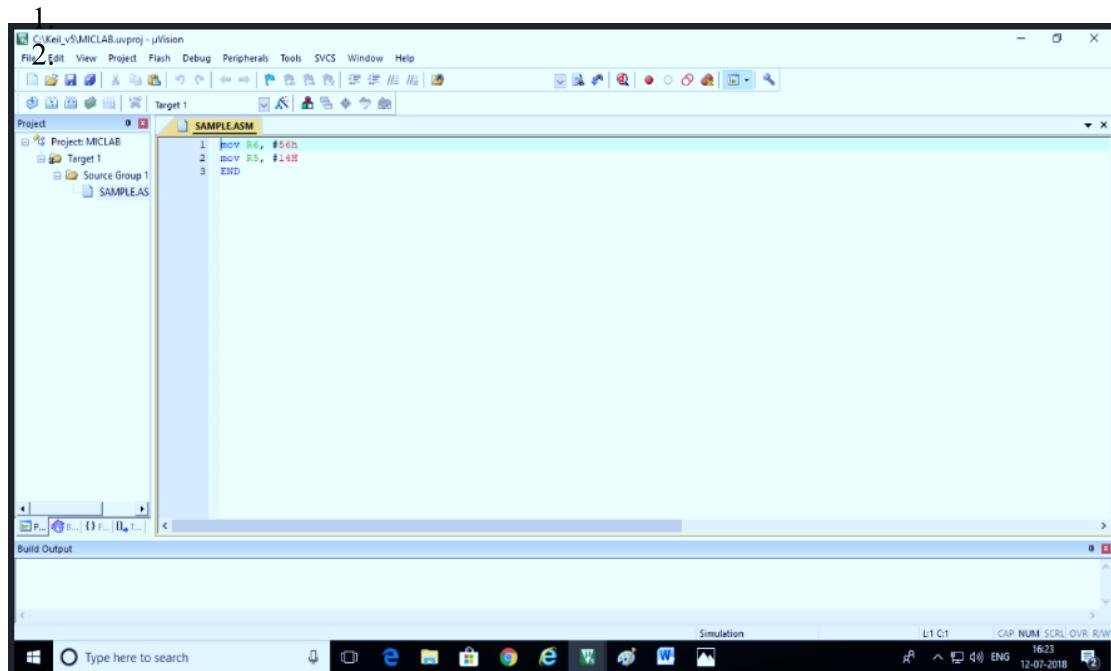

Figure 4.7: Project Work space Window
10. Project work space window will display ‘Target 1’ and ‘Source group 1’ with added file name. (refer Figure 4.7)